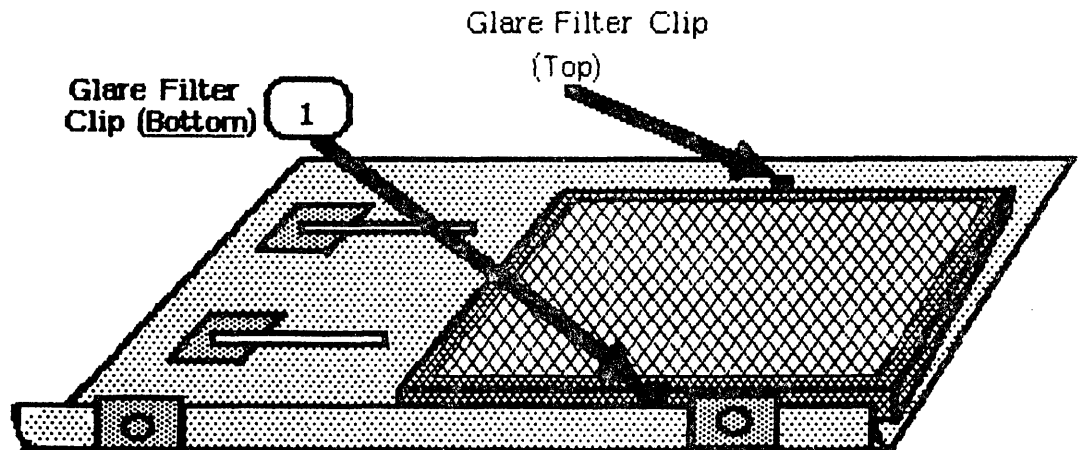

FIGURE 2
2. Push the frame of the glare filter out from under the metal clip (see Figure 2, #1) located at the bottom center of the front panel.